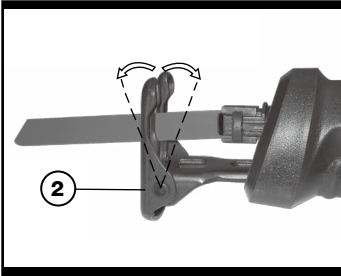

Fig. 2
1. PIVOTING BLADE FOOT (See Fig. 2 , 3)
being cut to reduce saw vibration, blade jumping and blade breakage. (See Fig.2)